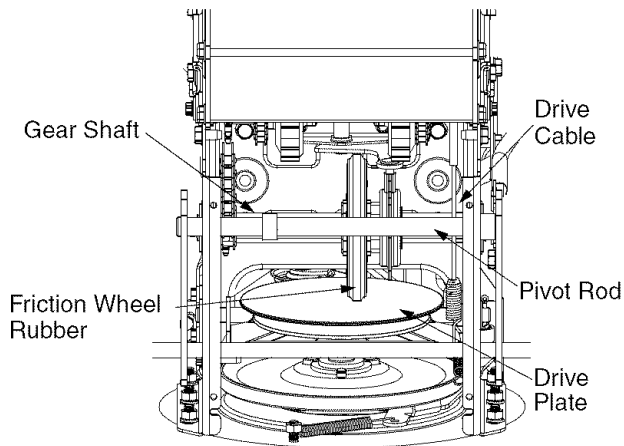

Figure 26
10. With the drive control engaged, check if the friction wheel contacts the drive plate. See Figure 26.